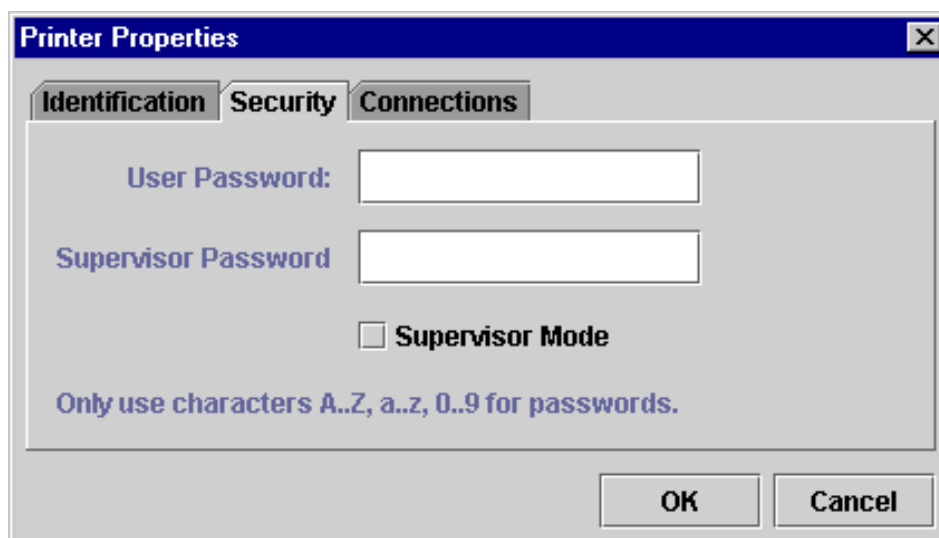

Figure 3. . Printer Properties (Security)
6. Click on the tab at the top of the window that reads, "Security." The Printer Properties window changes to the Security screen. See Figure 3.